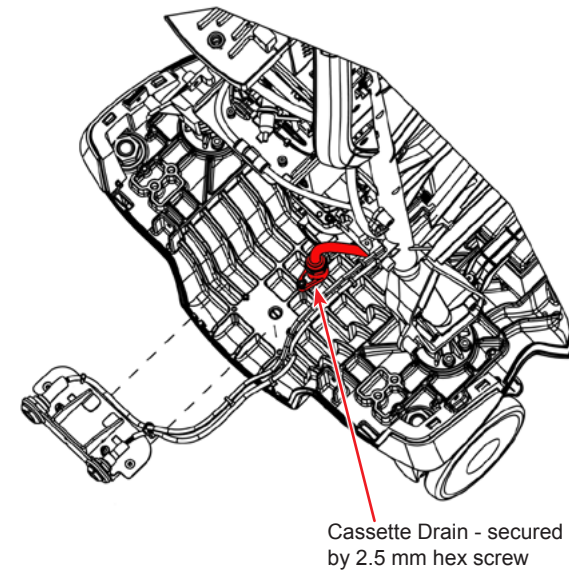

Figure 3-47 Cassette Drain Removal
- 39.11 Remove one 2.5 mm hex screw securing Cassette Drain to chassis (see Figure 3-47). Reposition Cassette Drain to provide clearance for pump removal.